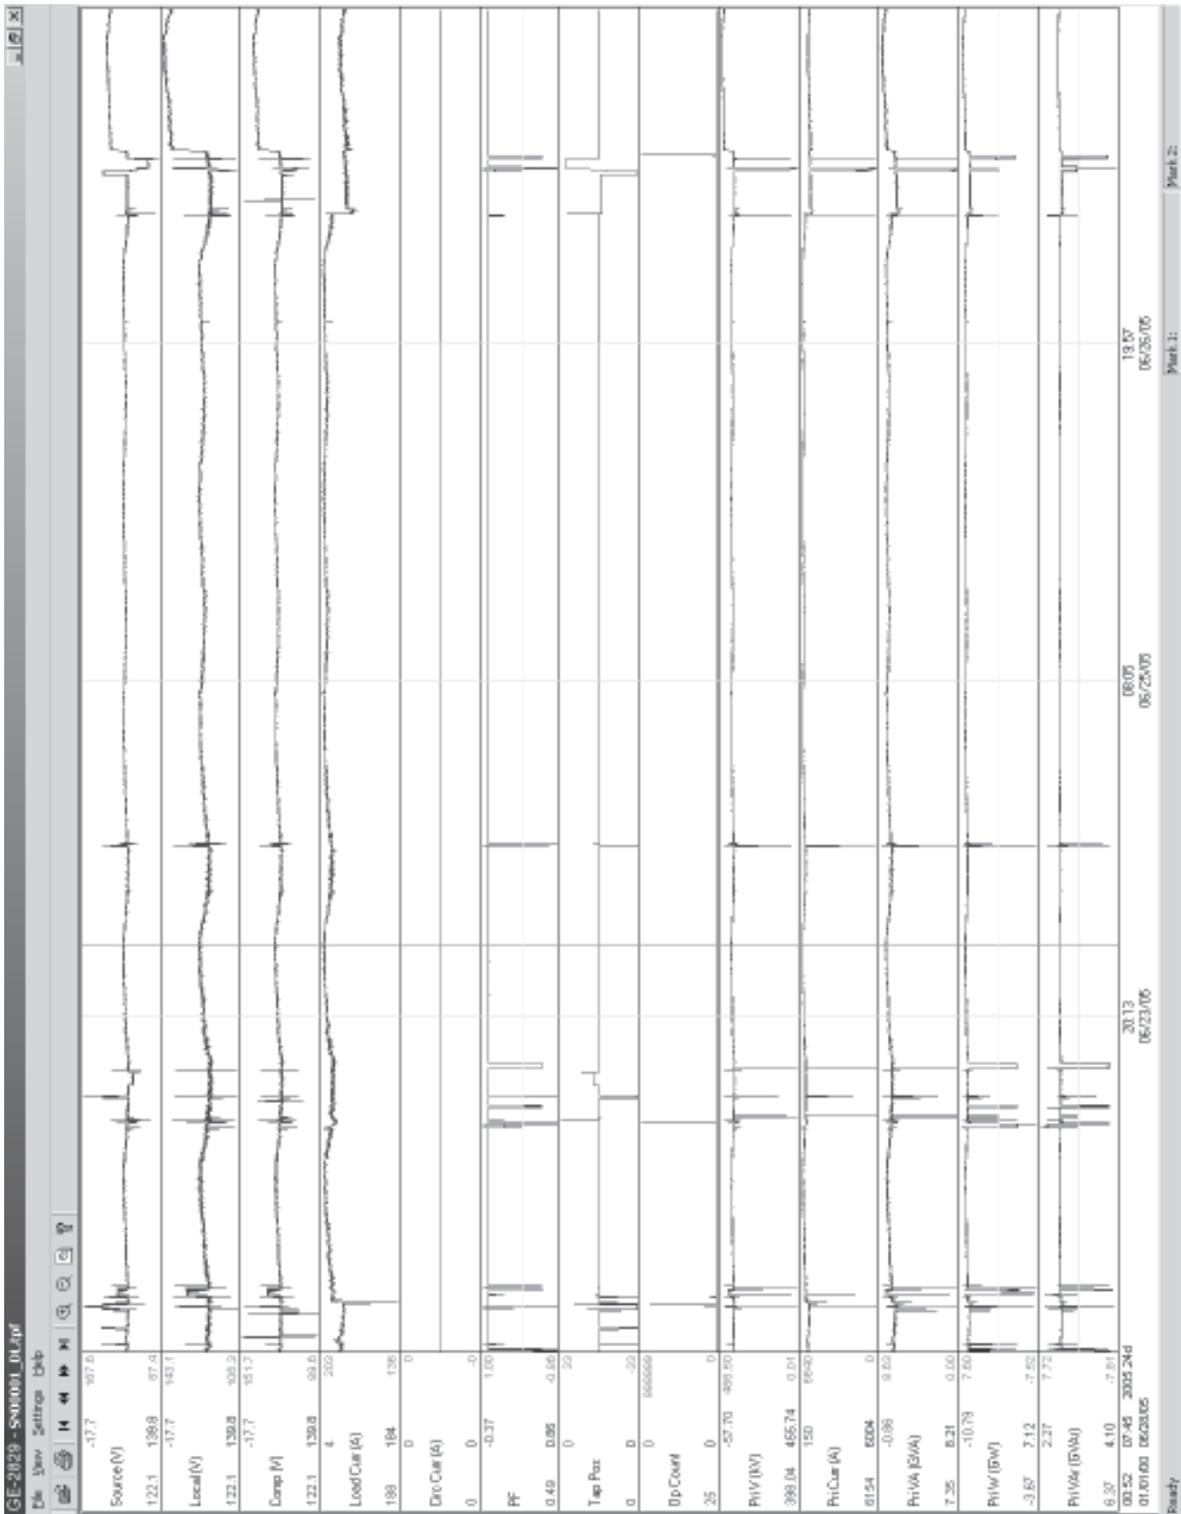

Figure 9-40 GE-2829 Window and Tap Data Example
1. Select the GE-2829 program-item icon from the Becoware group in the Program Manager, or select GE-2829 from the program list using the **Start** Menu. The GE-2829 Window and Toolbar is displayed (Figure 9-40).
3. Open the file. GE-2829 should display the saved data, as shown in Figure 9-40.
When GE-2829 is started, a menu and tool bar are displayed (see Figure 9-40). This section describes each GE-2829 menu selection and explains each GE-2829 command in the same order that they are displayed in the software program. Figure 9-42 presents the GE-2829 Menu and Submenu Callouts.